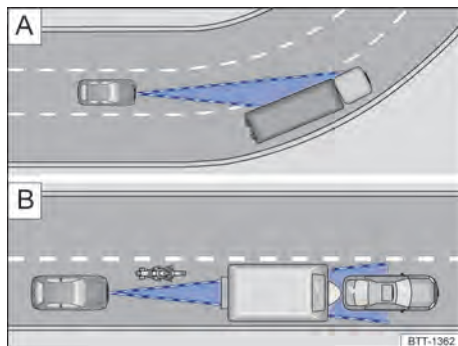

Fig. 99 [A] Curve condition. [B] Vehicles outside the radar sensor range
The radar sensor always performs straight-line measurements. Therefore, vehicles in sharp curves may be accidentally detected or vehicles in front may not be detected → [Fig. 99 \[A\]](#).
- Vehicles driving out of the sensor's range, close to the vehicle, such as motorcycles → [Fig. 99 \[B\]](#).